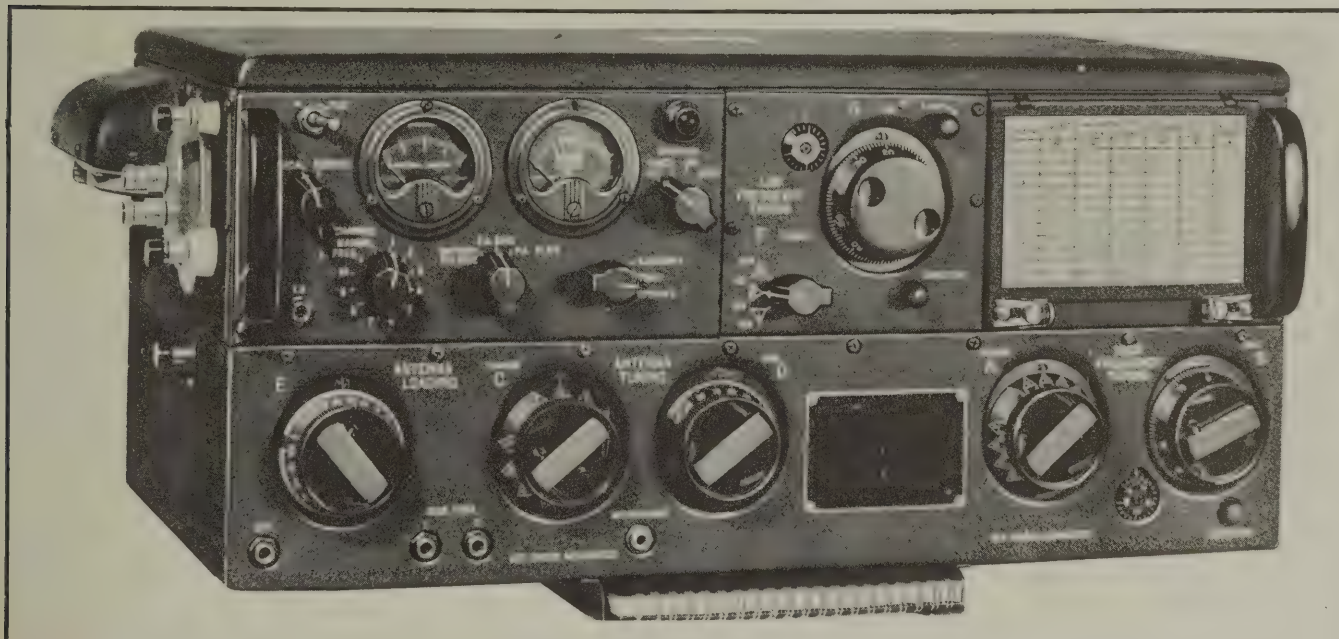

Figure 1-3—Radio Transmitter T-47A/ART-13 with Oscillator 0-17/ART-13A Installed
(2) **RADIO TRANSMITTER T-47A/ART-13.** (See Figure 1-3).—These transmitters are a redesign of Radio Transmitter T-47/ART-13. Several changes were made to the circuit including addition of an interlock switch and some components were changed. All of these transmitters are shipped from the factory with an 8Q-2 installed and with Panel MX-128/ART-13 installed in place of low frequency oscillators.